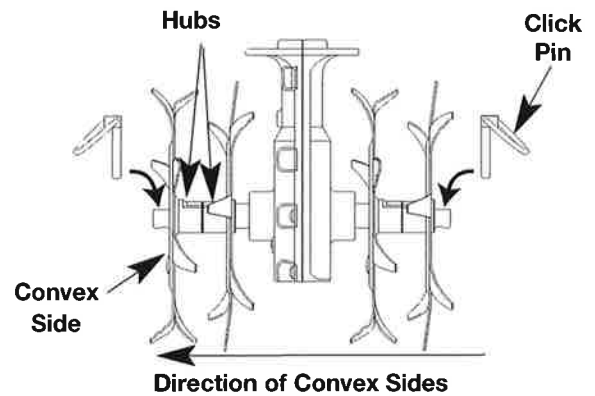

Fig. 9
2. Remove the click pin from each end of the tine shaft. Slide the tines off of the shaft (Fig 9).
4. Slide on the new tines with the hobs facing each other (Fig. 9).
NOTE: Each tine was a convex site. Make sure that all of the convex sides are facing as shown in Figure 9.